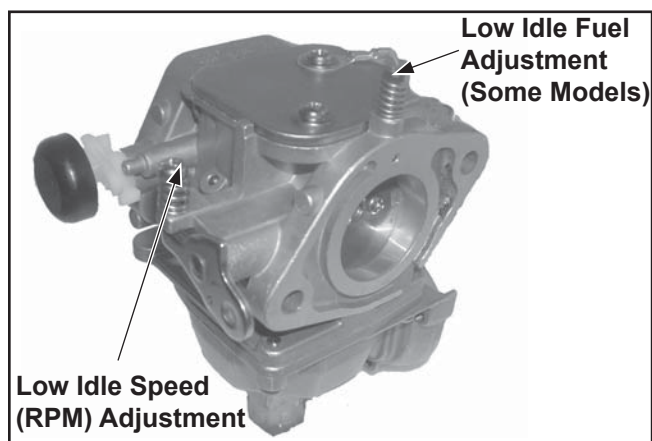

Figure 5-5. Carburetor Adjustments.
The carburetor is designed to deliver the correct fuel-to-air mixture to the engine under all operating conditions. The high speed mixture is preset at the factory and cannot be adjusted. The low idle fuel adjusting screw (some models) is also set at the factory and normally does not need adjustment. See Figure 5-5. Engines in this series depending on the model and application, may also be equipped with a Governed Idle System.
To adjust the carburetor idle fuel and speed, see Figure 5-5, and follow these steps.
1. With the engine stopped, turn the low idle fuel adjusting screw in (clockwise) until it bottoms lightly. Access this screw through the air cleaner base. See Figures 5-5 and 5-6.